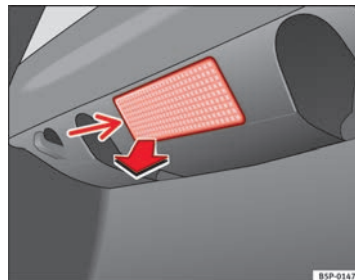

Fig. 206 Luggage compartment light
- Extract the bulb by pressing on its inside edge -arrow- using the flat side of a screwdriver ⇒ Fig. 206. ▶